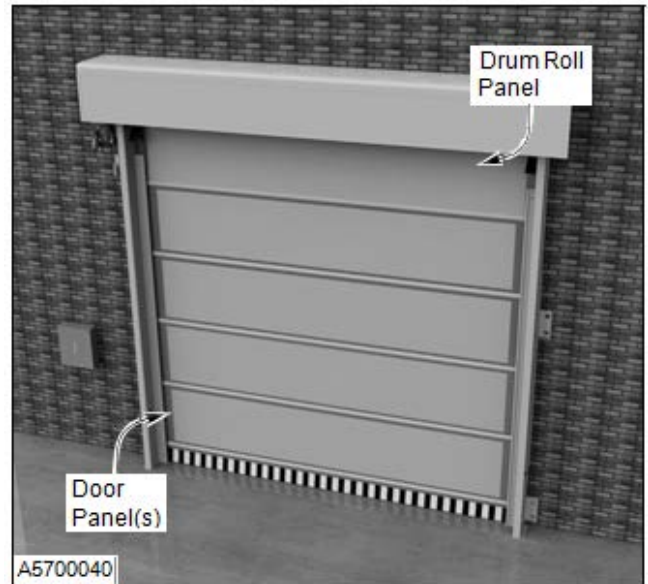
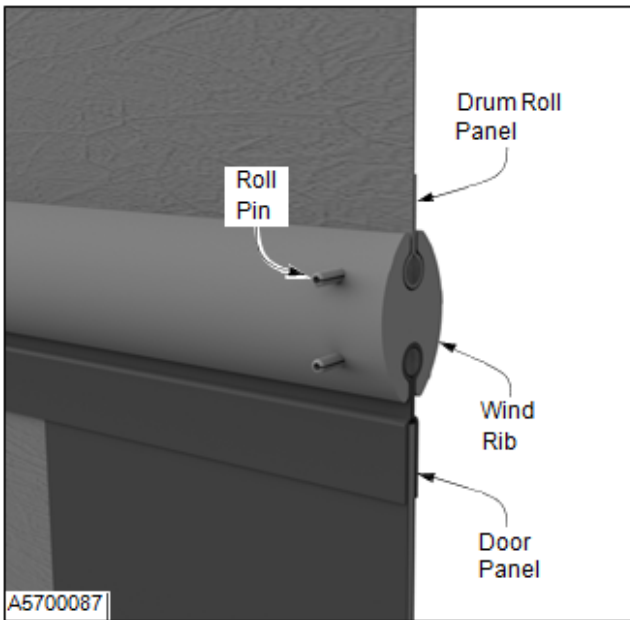

Figure 45
Figure 46
The drum roll panel is attached to the drum roll using a clamp bar and rivets. The separate, smaller door panels below are attached to each other with a wind rib and two roll pins, one at each end. (See Figure 45 and Figure 46.) The roll pins are located about 1 in. from the end of the panel.
5. Slide the wind rib out from between the drum roll panel and door panel. (See Figure 46)